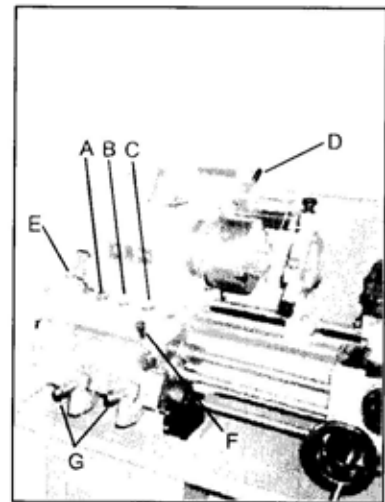

Fig. 12
- A. **Power Indicator Light** (A, Fig.12) – lit whenever lathe has power. Turns off when emergency stop button is depressed.
- B. **Emergency Stop Switch** (B, Fig.12) – depress to stop all machine functions. (Caution: lathe will still have power). Twist to re-set.
- C. **Jog Switch** (C, Fig.12) – depress and release to advance spindle momentarily.
2. **Belt Tensioning Handle** (D, Fig.12) – located on the headstock behind the chuck. Pull forward to release tension on the drive belt. Push toward the rear to tension the rates.
3. **Feed Direction Selector** (E, Fig.12) – located on the front lower left corner of the headstock. Arrows beside the handle indicate saddle travel direction when the chuck is rotating in the forward direction or counter-clockwise as viewed from the front of the chuck.
4. **Feed Rod / Leadscrew Selector** (F, Fig.12) – located on front of lathe above feed rate selectors. Move lever to left to activate feed rod. Mover lever to the right to activate leadscrew
5. **Feed Rate Selectors** (G, Fig.12) – two levers located at the bottom of the headstock. Use to set desired feed or lead rates.